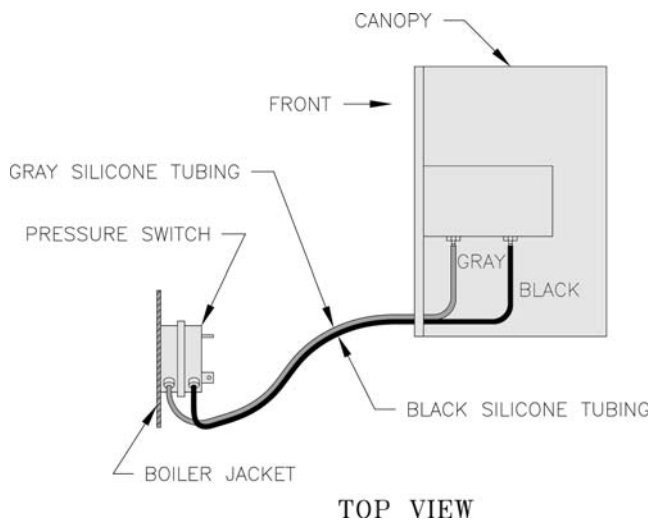

Figure 40: Silicone Tubing Assembly
12. Connect Silicone Tubing between Pressure Fittings on Canopy Assembly and Pressure Switch. Route through bushings in Vestibule Panel . See Figure 40.
4. Stop boiler, remove manometer and reconnect hoses to differential pressure switch. See Figures 40 and 43.